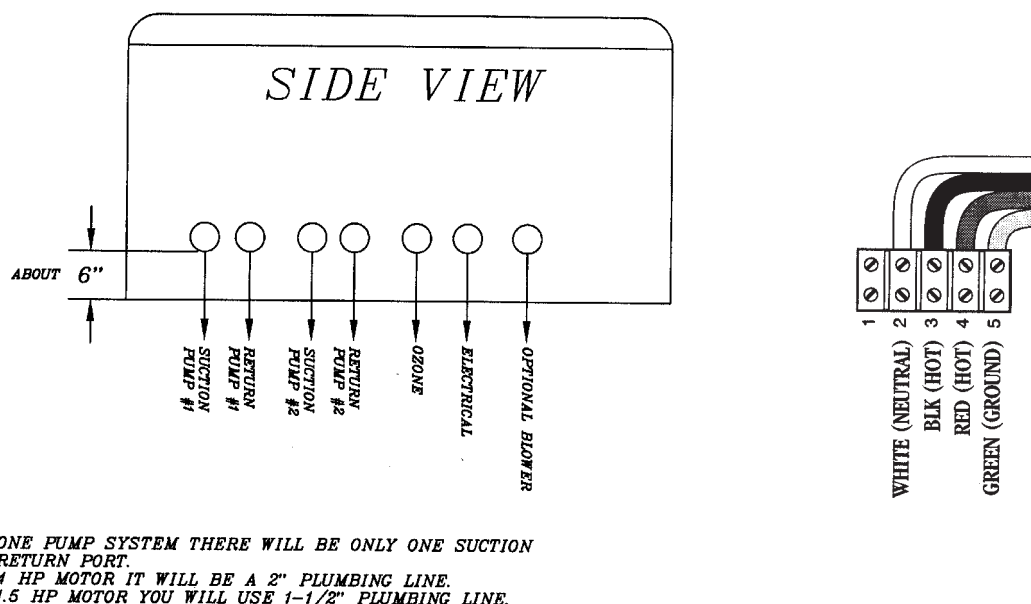

Figure 22. 12V routing instructions
Spas equipped with the marine grade audio system use either the Clarion or the Aquavibe stereo receiver, amplifier and CD player (see Figure 22). Each Cal Spa™ unit equipped with this audio system is delivered with the manufacturer's operating instructions. We strongly recommend that you read these instructions prior to operating this unit.
6. Connect the black and white light wires to the appropriate "12V Light location" on the terminal block inside the control box. (See Figure 22 for example)